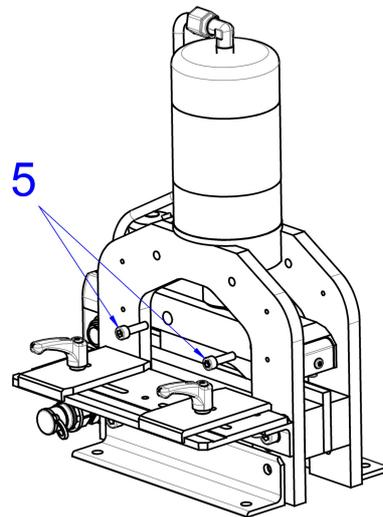

Fig. 12: Loosen the fastening screws
- Now loosen the two M8 screws (fig. 12, 5) on the side of the cutter bar.
- Screw in the two M8 screws (fig. 12, 5) from the side with 15 – 20 Nm torque.